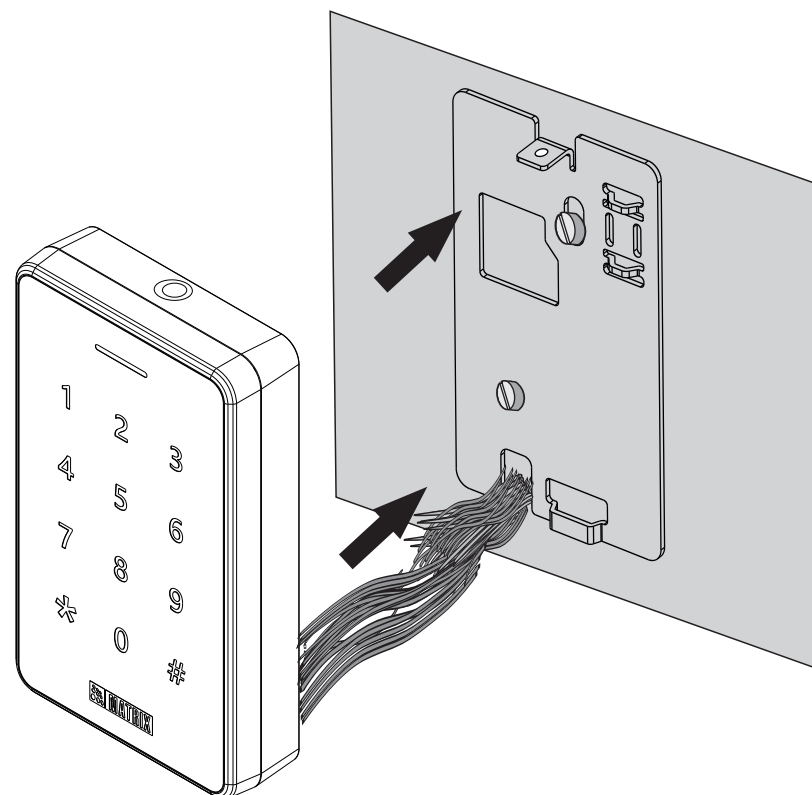

Figure 28
3. Lead the cables from the wall through the drilled area **C** of the Mounting Plate as illustrated in **Figure 24**. Connect the necessary cables with COSEC ATOM, see **Figure 28**.